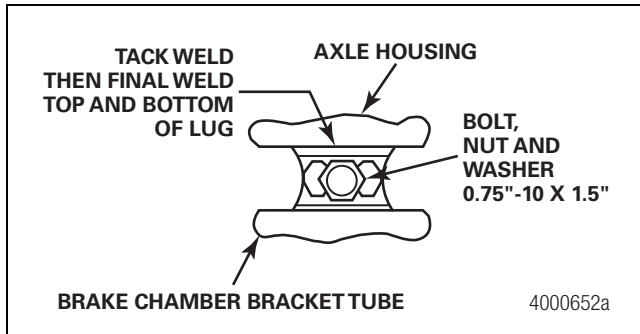

Figure 3.34
2. Meritor can supply the mating support lug along with the bolt, nut and washer (0.75"-10 x 1.5"). Contact your Meritor representative. Figure 3.34.
3. Before welding, assemble the housing lug to the chamber tube lug loosely. One washer should be placed between the head of the bolt and the support lug. The other washer should be placed between the nut and the opposite support lug. Slide the housing support lug toward the housing until it touches the housing wall. Figure 3.34.